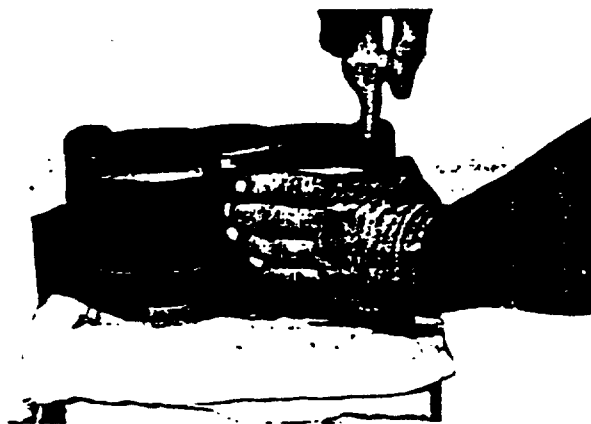

Figure 8-56. Removing Pistons from Caliper Bore.
6. Place a small block of wood under caliper piston. (Approximately 2 inches thick) Pad the exterior of the caliper with a clean shop towel. Remove the piston by directing air into the caliper fluid inlet. See Figure 8-56.